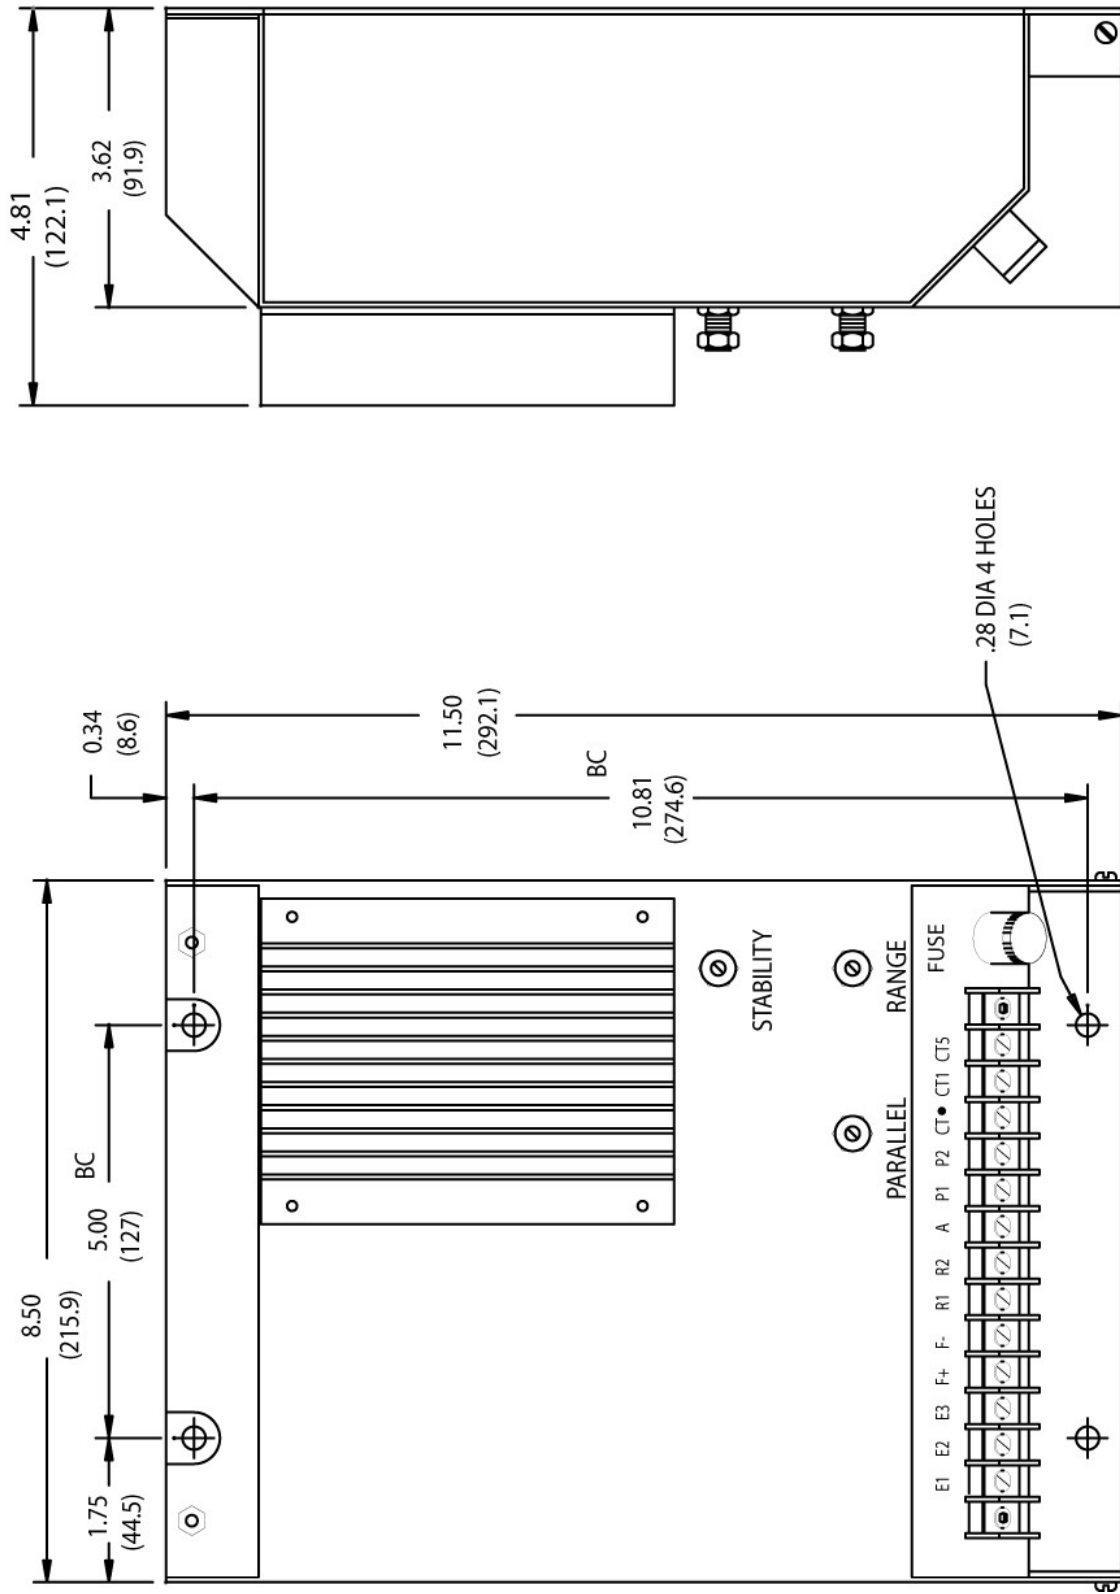

Figure 3: KCR 760 outline drawing
**Interconnection:** Connect the regulator to the generator system as instructed in this section and as shown in the connection diagram provided with the generator set. See Figure 3 for an overall outline drawing that shows the location of regulator mounting provision and parts of the voltage regulator. See Figures 4 to 11 for a typical interconnection diagrams and electrical schematics of the voltage regulator. Use 14 gauge or larger wire for connections to the voltage regulator.